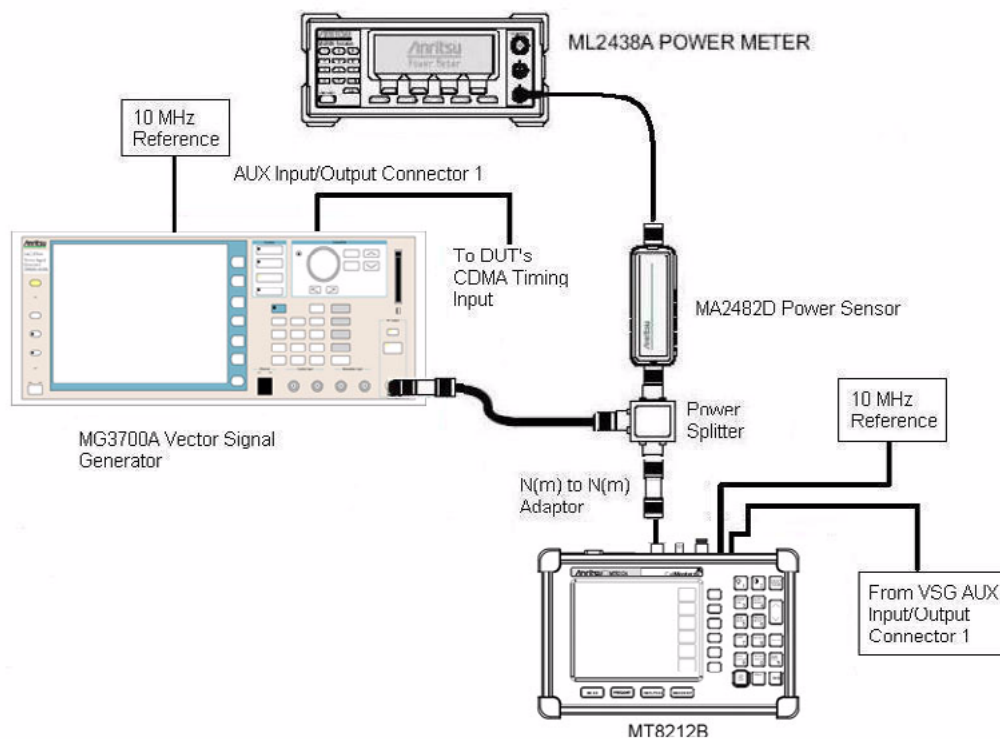

Figure 3-7. EVDO Signal Analyzer Option Verification
1. Connect the equipment as shown in Figure 3-7. Confirm that the external 10 MHz Reference is connected to both the 10 MHz Ref input of the MG3700A and the Ext Freq Ref input of the MT8212B.